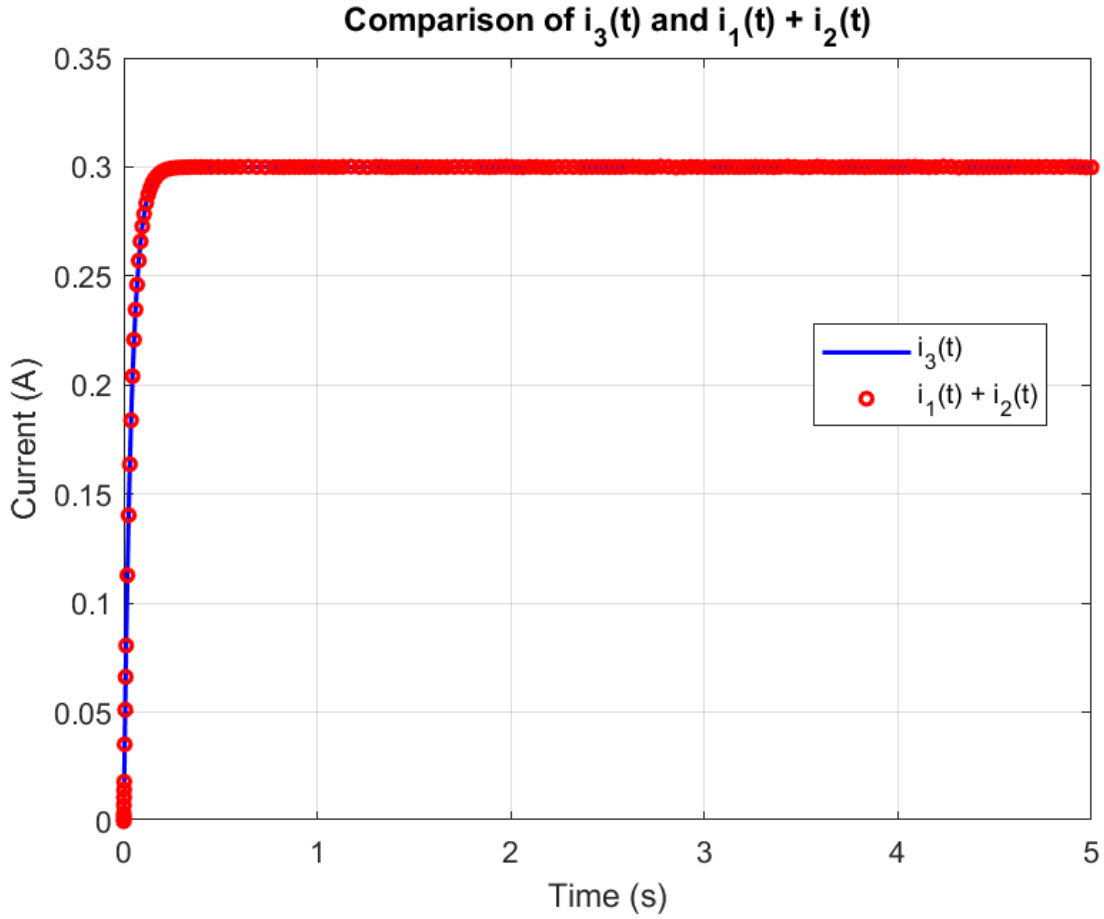

Figure 5: Comparing Linear Combination of Inputs to an Equivalent Output Over Time
- (3.4) Figure 5 and 6 below demonstrates the LTI nature of the system. An LTI system is defined as a system that is both Linear and Time Invariant. A linear system is one that follows the condition that if $x(t) = \alpha x_1(t) + \beta x_2(t)$, then $y(t) = \alpha y_1(t) + \beta y_2(t)$. That is, the output of a system is a linear combination of the inputs. We can observe in Figure 5 that the combination of the inputs $V_{s1} = 5V$ and $V_{s2} = 10V$ results in the outputs $i_1(t)$ and $i_2(t)$, which is equal to $i_3(t)$. $i_3(t)$ is